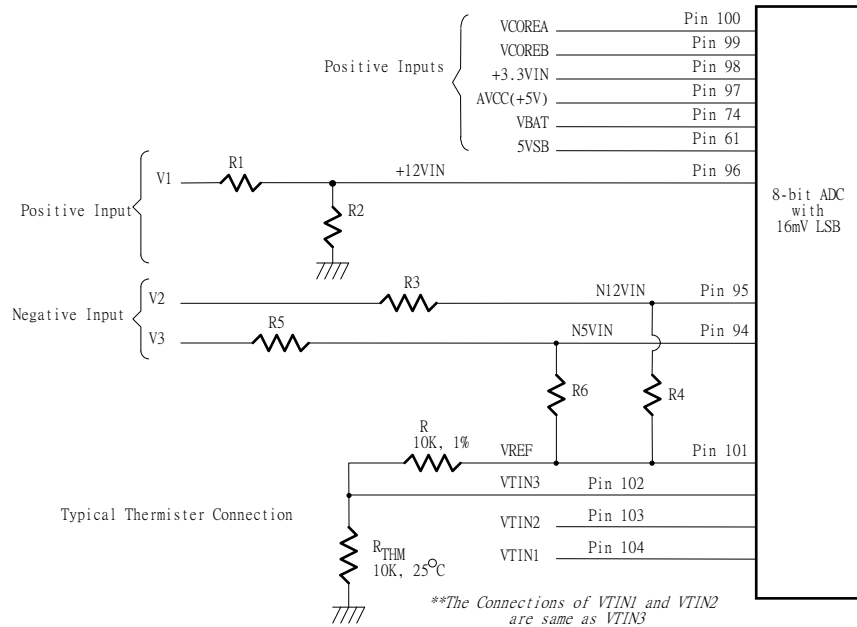

Figure. 8.2
The maximum input voltage of the analog pin is 4.096V because the 8-bit ADC has a 16mV LSB. Really, the application of the PC monitoring would most often be connected to power suppliers. The CPU V-core voltage, +3.3V, battery and 5VSB voltage can directly connected to these analog inputs. The +12V, -12V and -5V voltage inputs should be reduced a factor with external resistors so as to obtain the input range. As Figure 8.2 shows.
The negative voltage should be connected two series resistors and a positive voltage VREF (is equal to 3.6V) . In the Figure 8.2, the voltage V2 and V3 are two negative voltage which they are -12V and -5V respectively. The voltage V2 is connected to two serial resistors then is connected to another terminal VREF which is positive voltage. So as that the voltage node N12VIN can be obtain a posedge voltage if the scales of the two serial resirtors are carefully selected. It is recom-manded from Winbond that the scale of two serial resistors are R3=232K ohm and R4=56K ohm. The input voltage of node N12VIN can be calculated by following equation.
The W83627HG can connect three thermistors to measure three different envirement temperature. The specification of thermistor should be considered to (1) β value is 3435K, (2) resistor value is 10K ohms at 25°C. In the Figure 8.2, the themistor is connected by a serial resistor with 10K Ohms, then connect to VREF (Pin 101) .